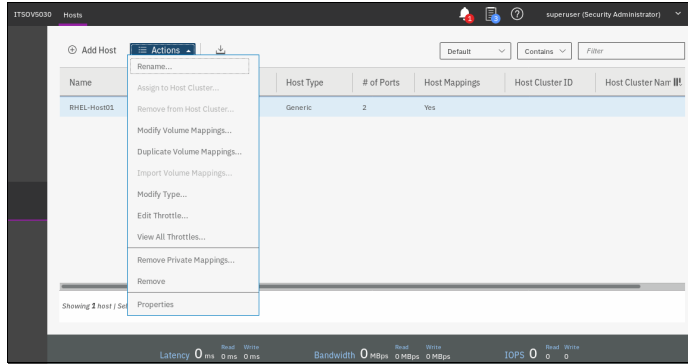

Figure 8-3 Actions menu on the Hosts window
2. Select a host and click **Actions** (as shown in Figure 8-3), or right-click the host to show the available actions.
As shown in Figure 8-3, some actions are associated with host mapping. For more information, see 8.1.1, “Modifying volume mappings” on page 385, and 8.1.2, “Unmapping volumes from a host” on page 388.